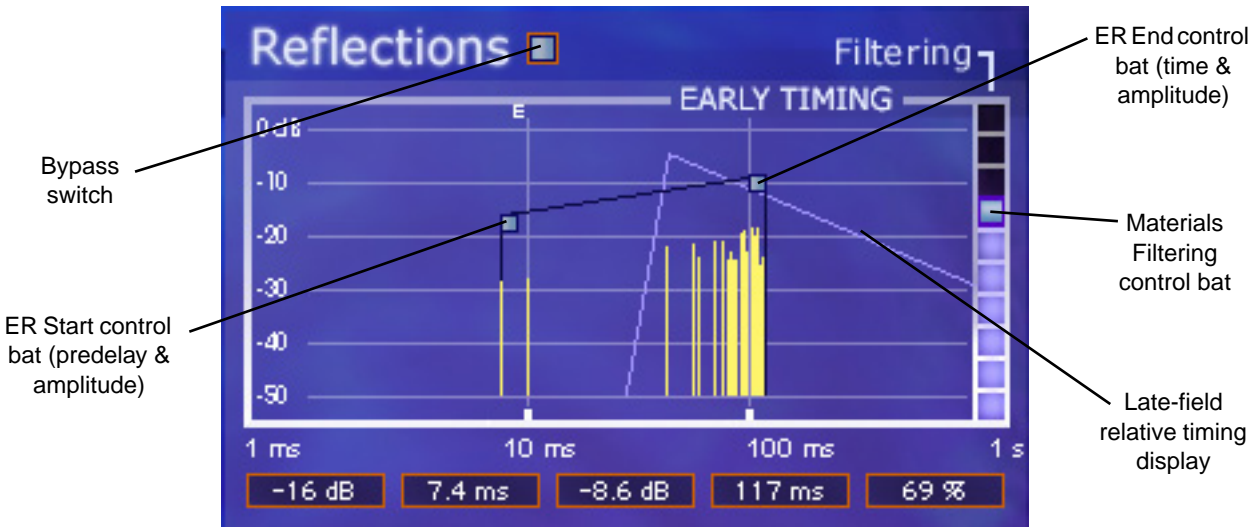

Figure 74. DreamVerb Reflections panel
The resulting early reflection pattern is displayed at the top of the Reflections panel (Figure 74 on page 152), where each reflection is represented by a yellow vertical line with a height indicating its arrival energy, and a location indicating its arrival time.
Note: The parameters in the Materials panel always effect the late-field reverberations. However, the materials parameters effect the early reflections ONLY if the “Filtering” parameter in the Reflections panel (Figure 74 on page 152) is set to a non-zero value.
The Reflections panel (Figure 74 on page 152) offers control over the timing and relative energies of the reverb early reflections (ER). These parameters effect the reverb's perceived clarity and intimacy. Each early reflection is visually represented by a yellow vertical line with a height indicating its arrival energy and a location indicating its arrival time.